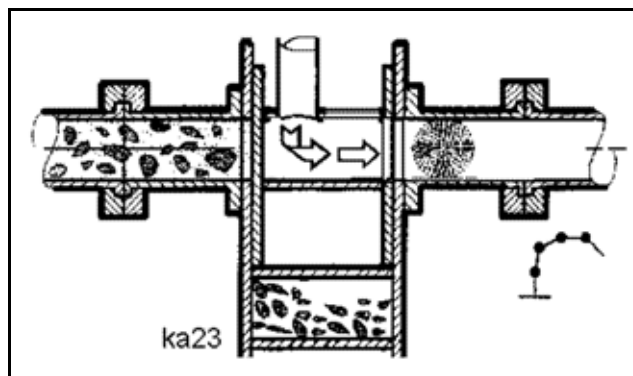

Fig. 514
- Retract the chamber and move the ball into the pumping line with a short blast of air (**Fig. 514**).